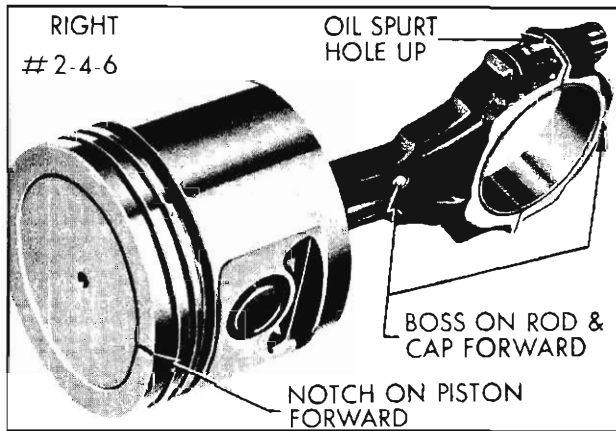

Fig. 3-131 Right Bank Piston and Rod Assembly
3. If the piston and rod is to be installed in the right bank, the assembly must be made as shown in Fig. 3-131.